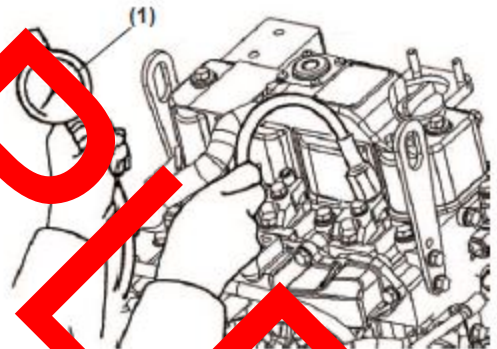

Figure 15-1
6. Before installing the compression gauge ((Figure 15-1, (1)) 2 valve engine, (Figure 15-2, (1)) 4 valve engine) adapter, crank the engine with the stop solenoid disconnected for a few seconds to clear the cylinder of any residual fuel.